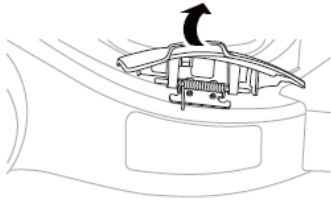

Fig. 9A
3. Lift the sideward flap for side-discharge opening. (Fig.9A)